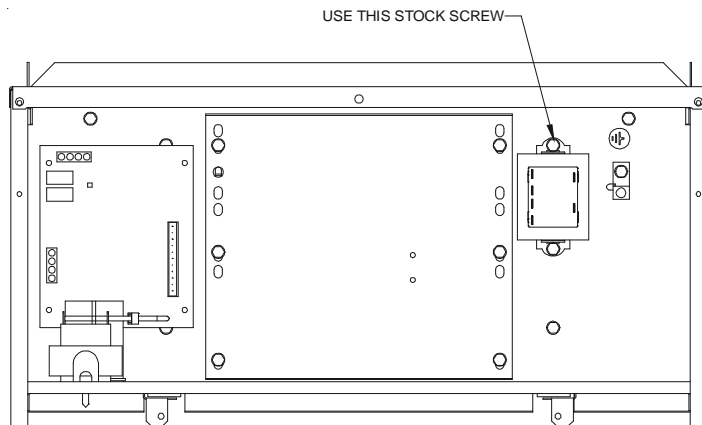

Figure 23
Remove the screw located on the control deck that is shown in Figure 23 and affix the PCB transformer with the removed screw and a screw hole. Then secure another screw hole of the PCB transformer using (1) field supplied, self-drilling screw.